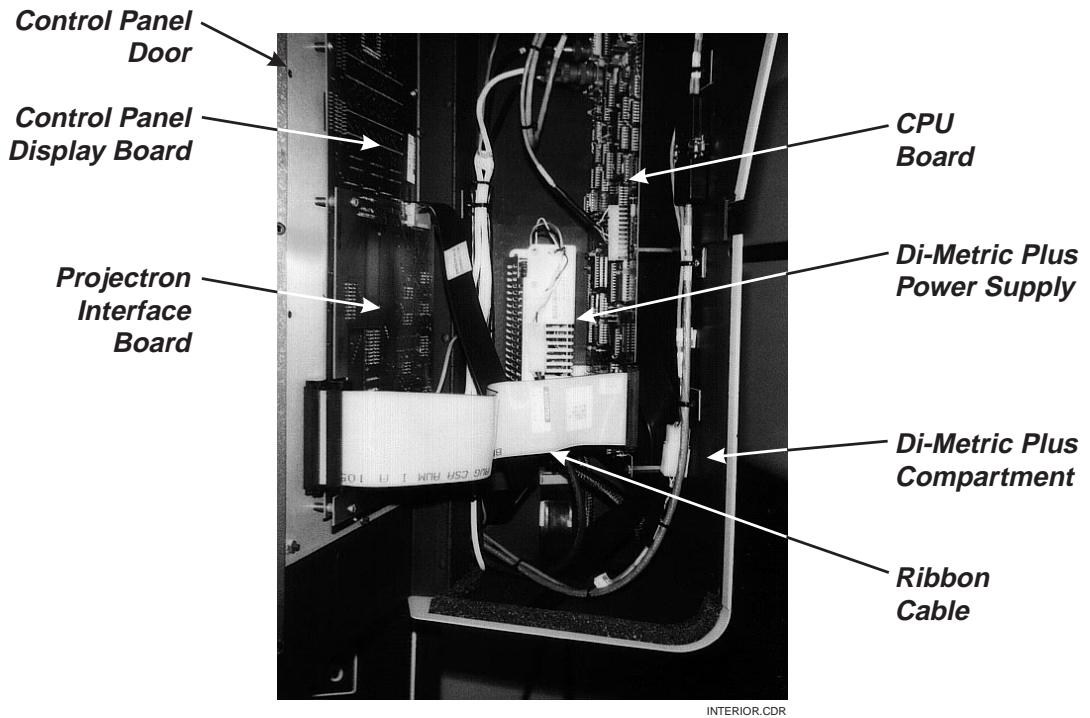

Figure C-1. Di-Metric Plus Compartment with Control Panel Door Opened.
To locate the Di-Metric Plus power supply, refer to Figure C-1 and perform the following steps:
2. Locate the gray ribbon cable that is attached to the CPU board at one end, and the Control Panel Display board (and the Projectron Interface board, if your machine is equipped with Projectron) at the other end (see Figure C-1). Pull the ribbon cable straight out to disconnect it from the CPU board. Leave the other end of the ribbon cable attached, and let it hang loosely, so that it is out of your way.